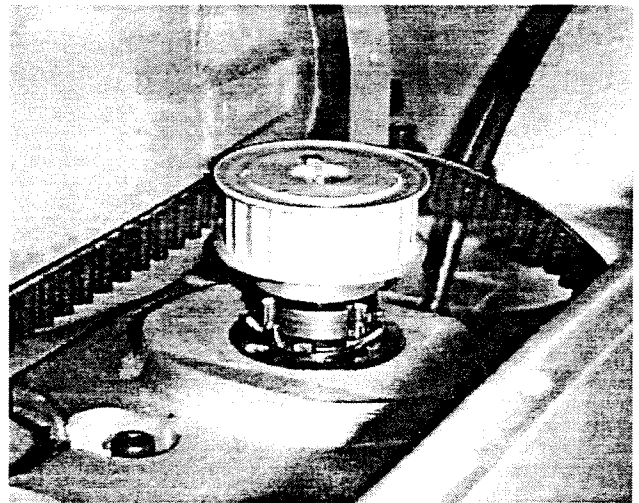

Figure 12
56. Re-install the bearing accessplate on the bottom of the lower assembly. Fasten using the (4) 4-40 x 3/8" BHCS that were removed at dis-assembly.
57. Place the screw pulley (**hub down**) and key in place on the end of the ball screw and fasten securely. Note: depending on the thickness of the serial # boss you might have to install the 480 5 m belt with the pulley at the same time. **See Figure 12.**